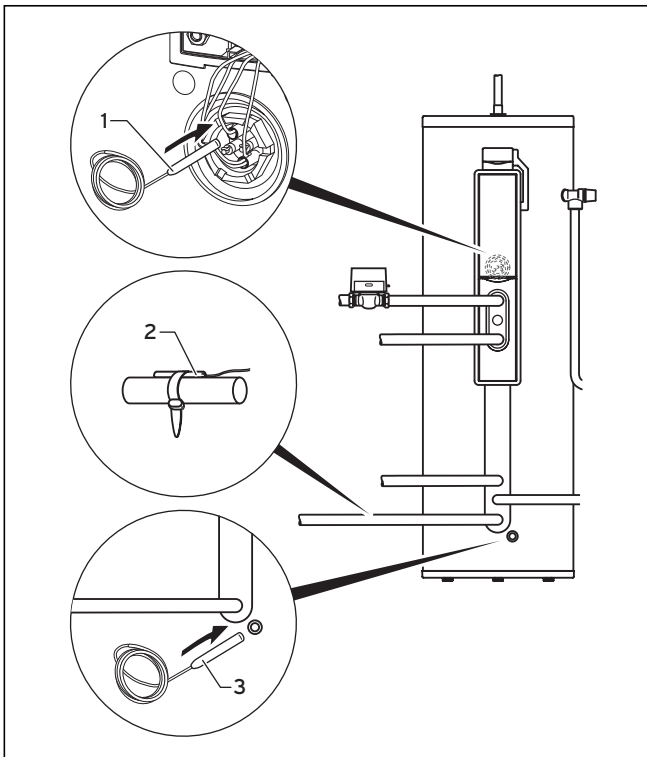

Fig. 5.32 Installation of the VR 10 temperature sensor
- Installation of two VR 10 temperature sensors in the solar cylinder (see Fig. 5.32)
- Attachment of the solar gain sensor to the solar circuit return (see Fig. 5.32)
- Push one of the VR 10 temperature sensors (1) supplied with the solar control in an immersion sleeve where there is still room, as illustrated in Fig. 5.32.
- Push a VR 10 temperature sensor (3) in the immersion sleeve for the bottom cylinder area.
- Attach the temperature sensor for the gain (2) to the return pipe of the solar circuit nearby the solar cylinder.